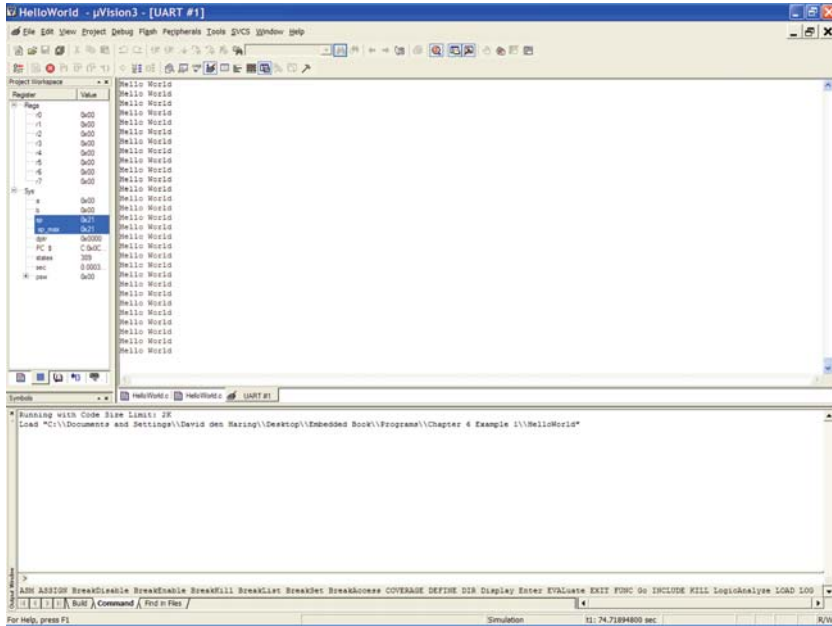

Fig. 6.9 Hello World screenshot using STDIO
3. View the output of the program. Select *View* → *Serial Window* → *UART #1*. The string “Hello, World!” should be displayed in this window. See Figure 6.9 for a screenshot.